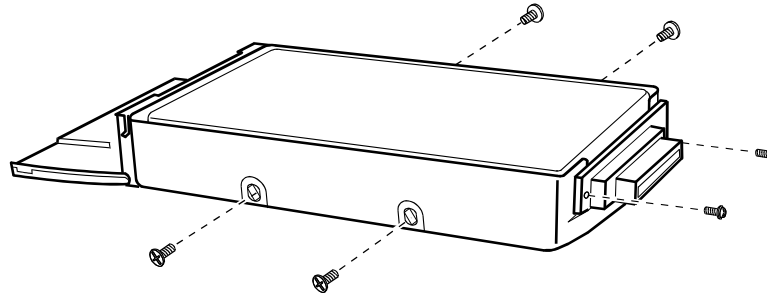

FIGURE 7-8. REMOVING THE HARD DISK DRIVE BRACKET
3. ATTACH THE HARD DISK DRIVE TO THE BRACKET. SECURE WITH TWO SCREWS ON EACH SIDE AND TWO SCREWS ON THE CONNECTOR CARD. (SEE FIGURE 7-8 EARLIER).